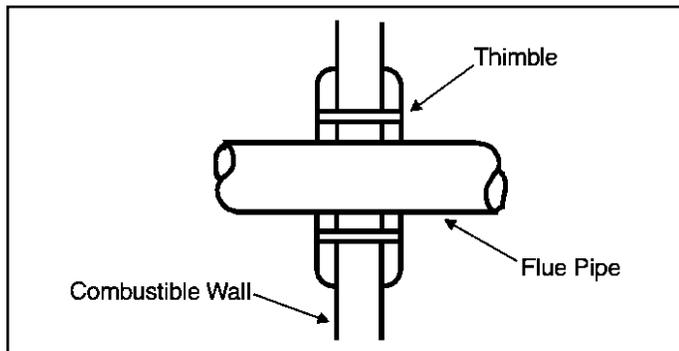

Figure 6. Wall Thimble
7. The flue pipe may pass through a wall where provisions have been made for a thimble as specified in the Standards of the National Board of Fire Underwriters (see Figure 6).